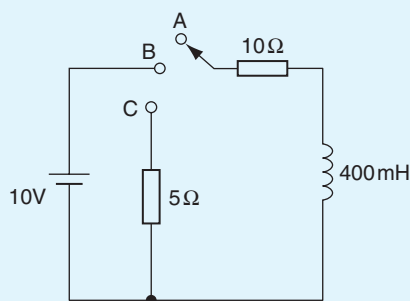

Figure 18.15
6. In the inductive circuit shown in Fig. 18.15, the switch is moved from position A to position B until maximum current is flowing. Calculate (a) the time taken for the voltage across the resistance to reach $8\ \text{volts}$, (b) the time taken for maximum current to flow in the circuit, (c) the energy stored in the inductor when maximum current is flowing, and (d) the time for current to drop to $750\ \text{mA}$ after switching to position C.